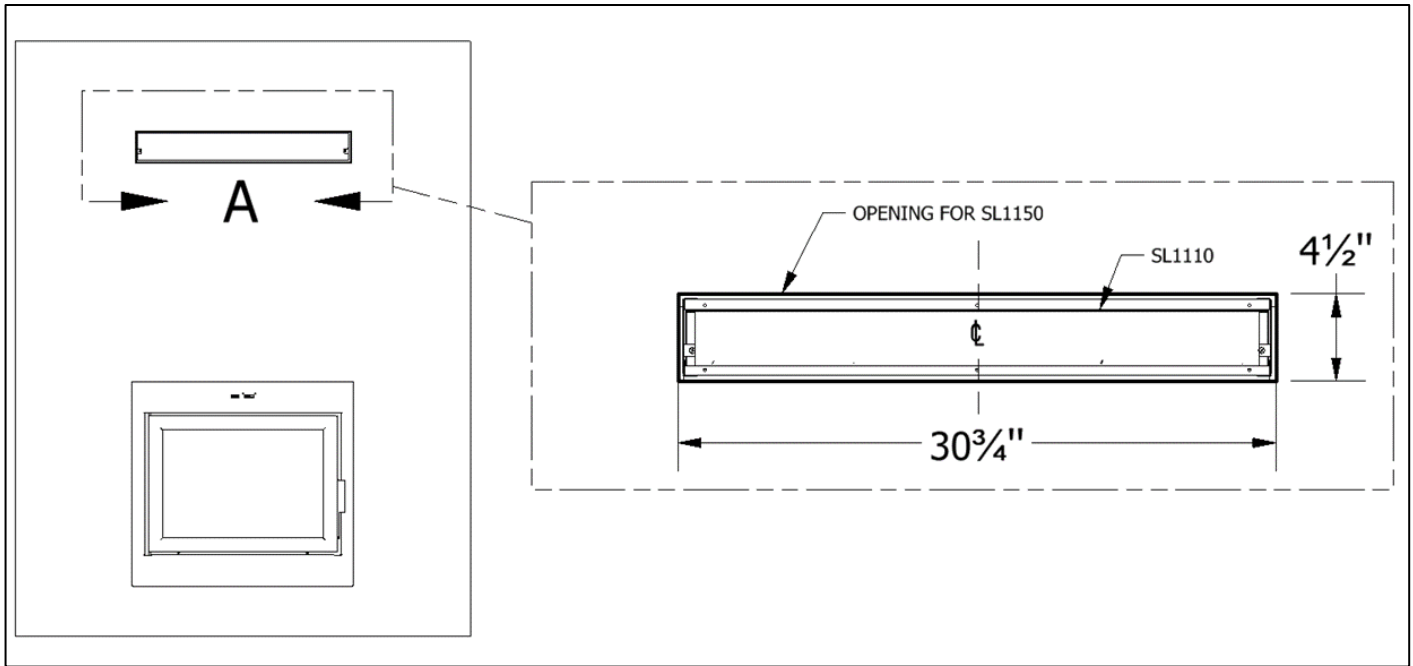

Figure 3-33: Opening for Air Outtake
- Once the chase has been built, locate the linear duct/louver adapter outlet and cut an opening on the chase finishing material of 30.75" (W) X 4.5" (H) centered with the outlet (Figure 3-33).